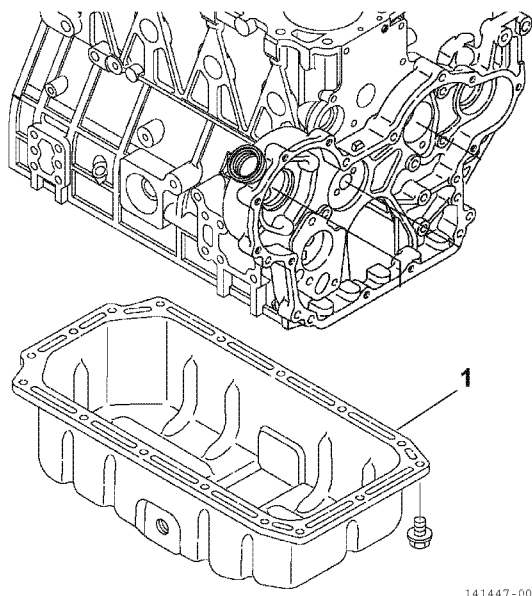

Figure 6-53
2. Remove the oil pan (1, Figure 6-53).